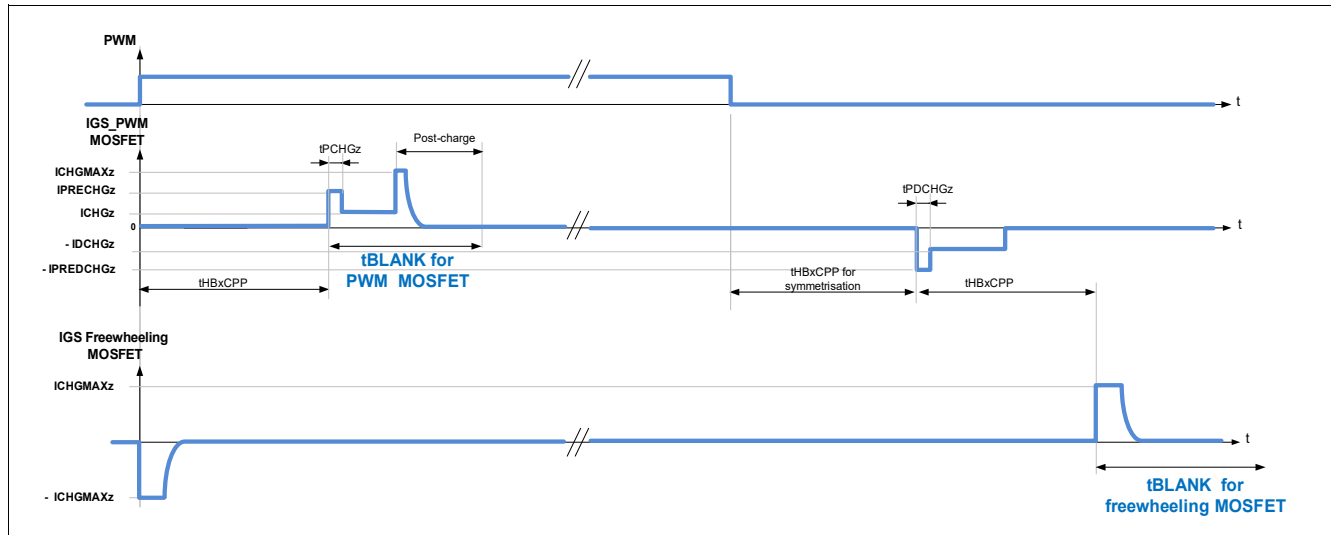

Figure 77 Blank time for half-bridges in PWM operation with $AFW = 1$
- the blank time of the PWM MOSFET starts at the expiration of the cross-current protection time of the PWM MOSFET. Refer to Figure 77.
- the blank time of the free-wheeling MOSFET starts after expiration of the cross-current protection time at turn-off of the PWM MOSFET. Refer to Figure 77.